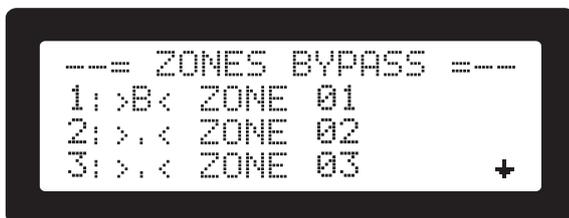

Figure 30. Bypassed zones activation screen
- Press **<2>** to select menu item **[2. Bypass Zones]**: The list with all available zones is displayed (see Figure 30).